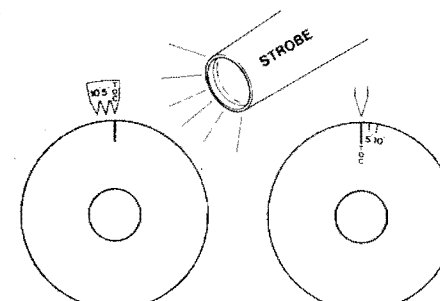

Fig. 32 Stroboscopic timing
**Stroboscopic Timing (Fig. 32)**